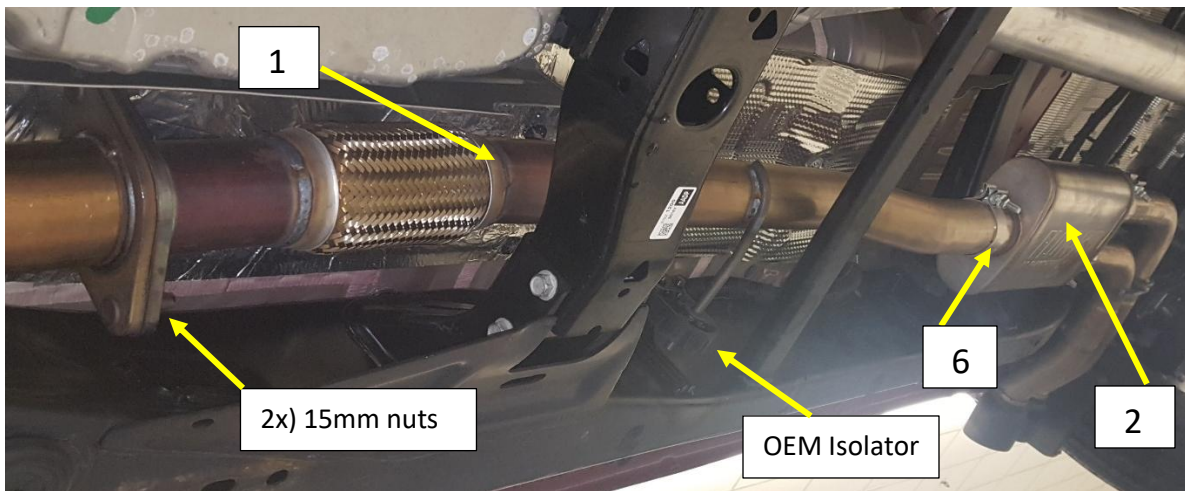

Figure.2
3. Install the Flowmaster Muffler inlet pipe **(1)** into the vehicle and on to the studs at the catalytic converter 2 bolt flange. **Fig.2**
4. Install the hanger rod into the OEM isolator. **Fig.2**
5. Install the (2x) 15mm nuts on to the studs at the 2-bolt flange and tighten. **Fig.2**
6. Install a supplied 3.0" band clamp **(6)** on to the Muffler inlet, Bolt at the top and the nut facing the ground. **Fig.2**
7. Install the muffler **(2)** on to the muffler inlet pipe and level with the ground and Flow FX Logo running front to back, Tighten the clamp to allow for adjustment. Support the Muffler with a jack stand. **Fig.2**